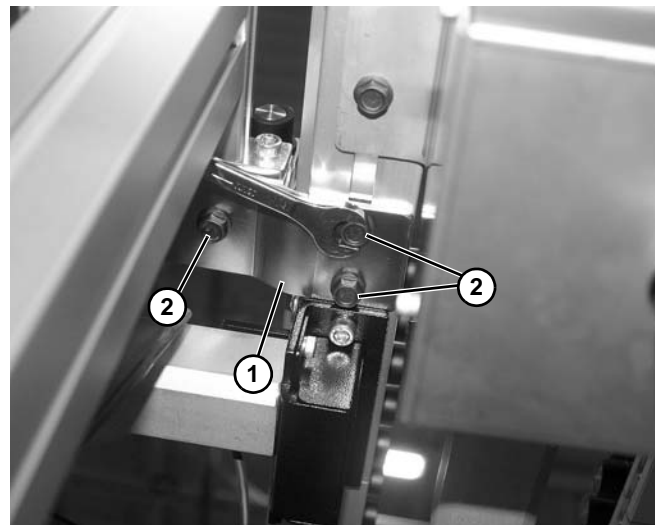

Figure 31
3. Secure tie bracket (Figure 31, item 1) with screws (Figure 31, item 2) to the transfer conveyor.